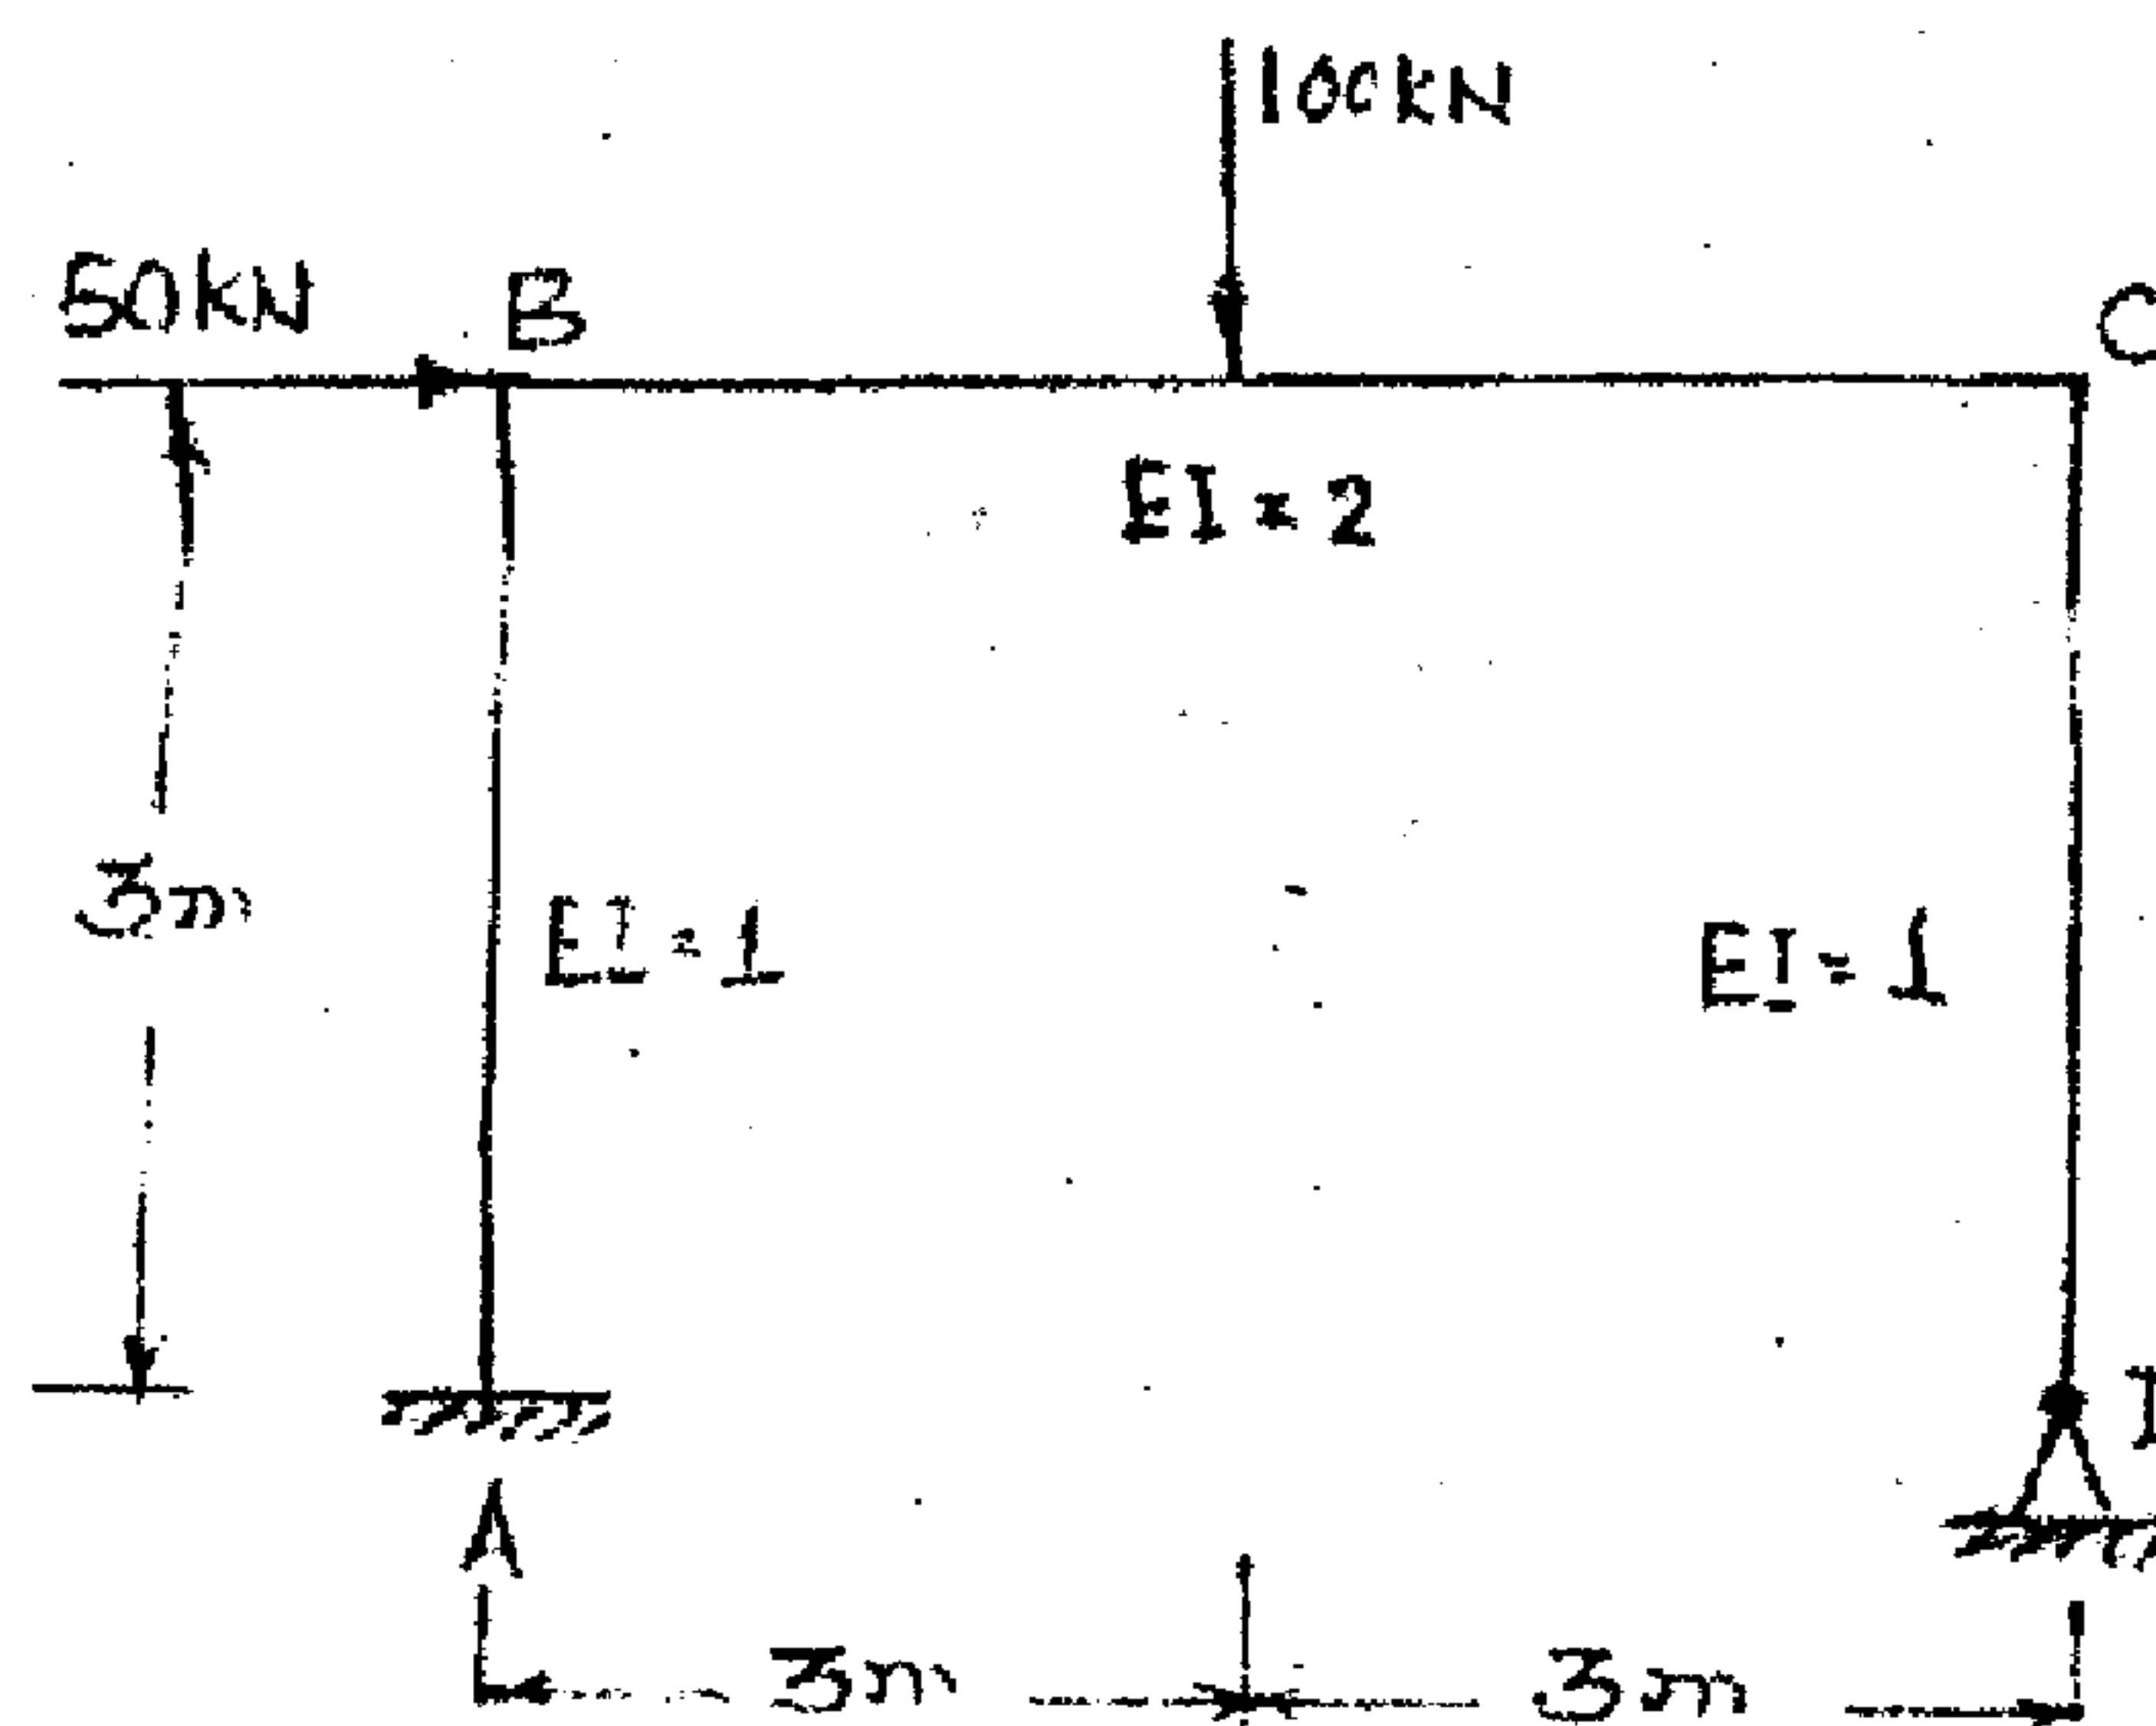

Fig. Q6
- 6 Analyse the frame shown in figure Q6 by the matrix flexibility method. (20 Marks)